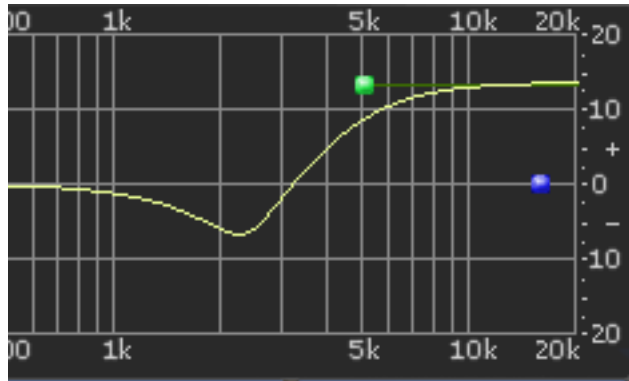
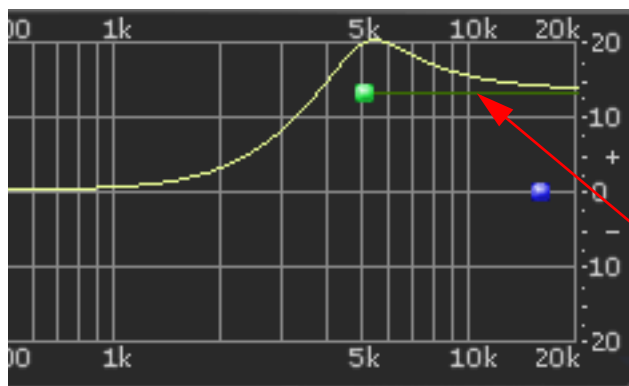
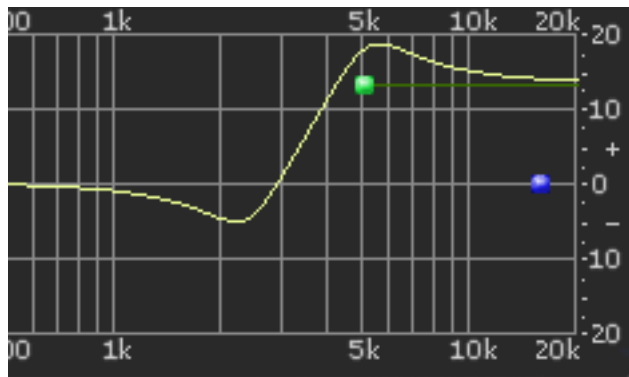

Figure 65. Shelf Type A
Figure 66. Shelf Type B
Figure 67. Shelf Type C
The button is green when shelving is enabled. Additionally, the control bar associated with the band has a horizontal shelf indicator line in the response curve display (see Figure 66 on page 144) when shelf mode is active.
The Shelf Type button places the resonant peak at (A) the edge of the stopband (Figure 65 on page 144), (B) the edge of the passband (Figure 66), or (C) at the edge of the stopband and the passband (Figure 67).